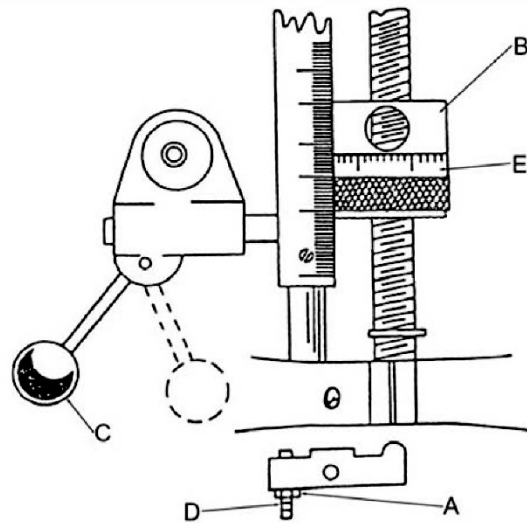

Figure 10-9: Feed trip adjustment
Refer to Figure 10-9.
1. Loosen lock nut (A, Figure 10-9).
2. Engage trip handle (C) by pulling it away from head assembly.
3. Adjust micro nut (E) against quill stop (B).
4. Slowly turn adjusting screw (D) until lever (C) trips.
5. Tighten lock nut (A).